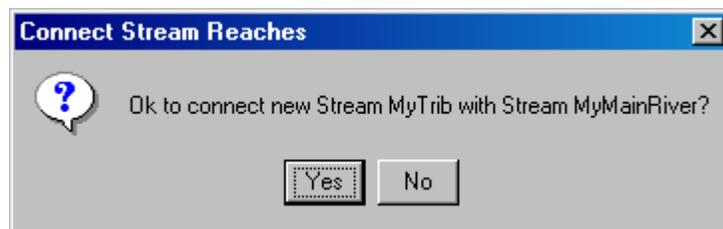

Figure 5.8 Connect Stream Reaches Dialog Box
8. To create a confluence or bifurcation, end the stream element by clicking directly on an existing stream element. After naming the new stream element, the **Connect Stream Reaches** dialog box (Figure 5.8) will appear. You need to determine whether you want to connect the new stream element to the existing stream element. Click **Yes** if you want the two stream elements connected; otherwise click **No**. If you selected **No**, and if there are additional existing streams that are possible candidates for connecting your new stream element to, then a subsequent **Connect Stream Reaches** dialog will appear to give you the opportunity to connect to the existing stream.